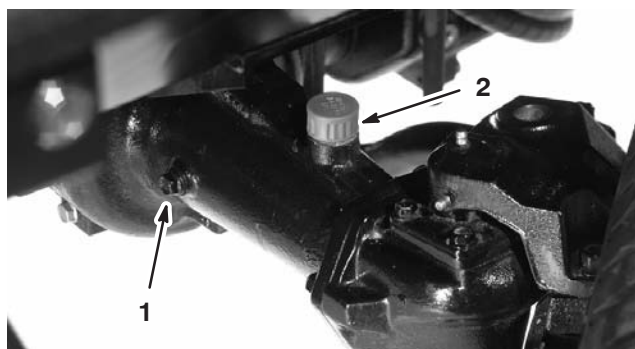

Figure 8
2. Remove a check plug from one end of the axle (Fig. 8) and make sure that the lubricant is up to the bottom of the hole. If the level is low, remove the fill plug (Fig. 8) and add enough lubricant to bring the level up to the bottom of the check plug holes.